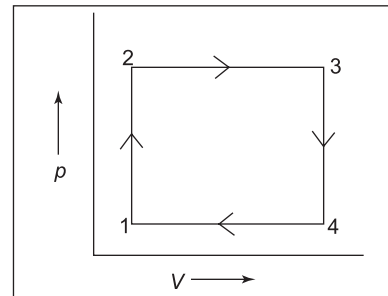

Figure 1.12 Example of a cycle (cyclic process)
- 13. Cycle:** A series of processes is known as cycles. A complete cycle is one in which the system returns to its original (starting) state (point). In such a case, there is no variation in the properties of the system at the beginning and conclusion of the cycle. If all the constituent processes are reversible individually then the whole cycle is said to be a reversible cycle. Otherwise, even if one of them turns out to be irreversible, the entire cycle becomes irreversible (Figure 1.12).